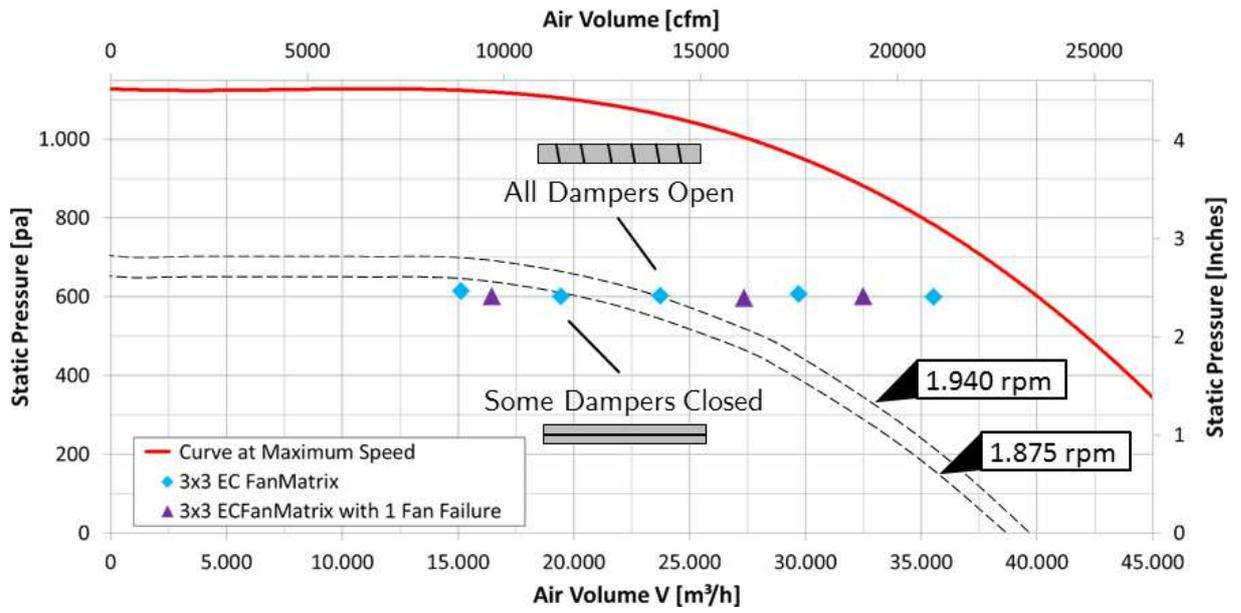

Figure 14: Constant Pressure Control 600 Pa (2.4 Inches)
- In Fig. 14 on the next page, a Constant Pressure Control of 600 Pa (2.4 Inches).